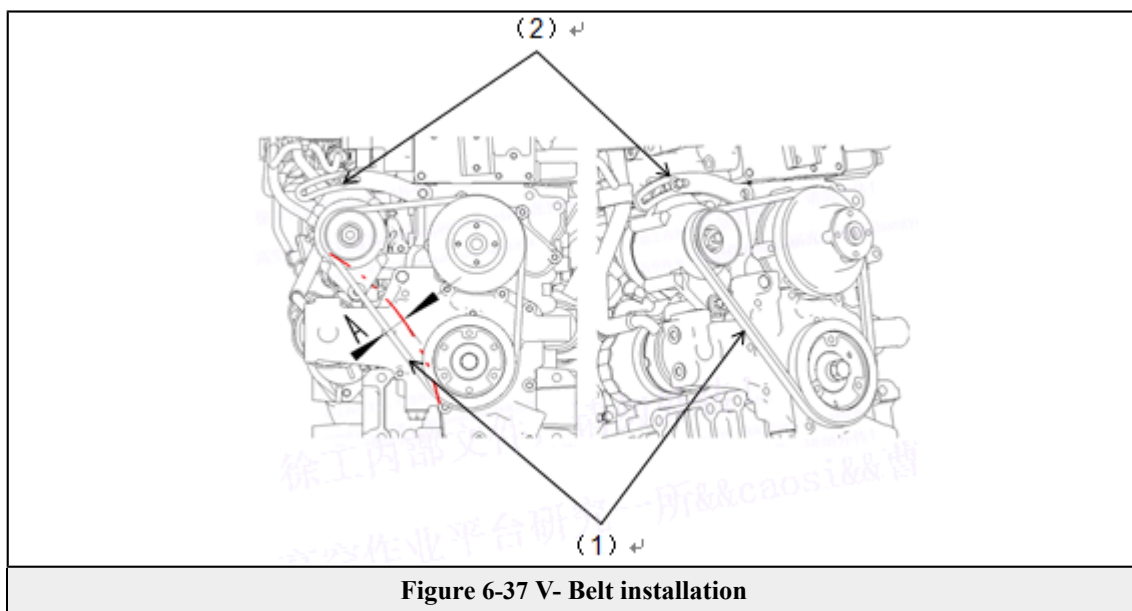

Figure 6-37 V- Belt installation
- Push the V-Belt in the middle between the shaft wheel and the alternator (see Figure 6-37)
1. Screw off the alternator' s tensioning bolt (2).